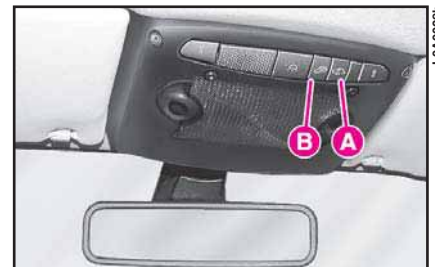

fig. 16
To deactivate the volumetric protection, press button **A** (fig. 16) on the front ceiling light: when the function is off, the button warning light will flash for about 3 seconds and then goes out.
To switch the anti-lifting protection off, press button **B** (fig. 16) on the front ceiling light: when the function is off, the button warning light will flash for about 3 seconds and then goes out.
- volumetric protection, which can be disconnected by means of button **A** (fig. 16) set on the front ceiling light: when the function is off, the button warning light flashes for about 3 seconds and then goes out;
- anti-lifting protection, which can be disconnected by means of button **B** (fig. 16) set on the front ceiling light: when the function is off, the button warning light flashes for about 3 seconds and then goes out.